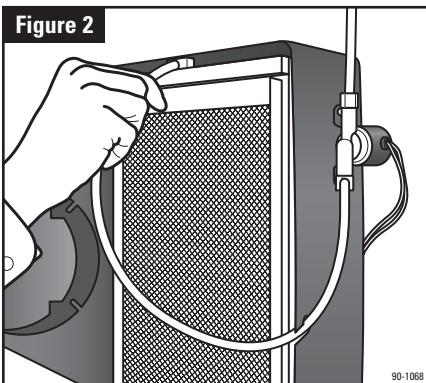

Figure 2
Insert feed tube into distribution tray. See **Figure 2**. Rotate nameplate (11) if necessary, so it is right side up. Place point bypass damper handle (8) to "WINTER" (open) for heating season and "SUMMER" for cooling season.